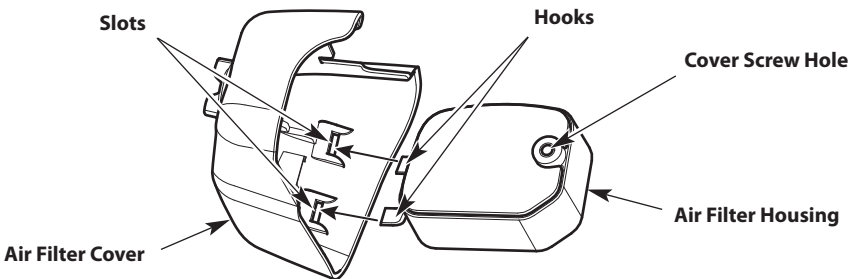

Fig. 21
7. Insert the hooks on the air filter housing into the slots on the air filter cover (Fig. 21).
8. Swing the air filter cover to the right and align the cover screw with the cover screw hole (Fig. 21). Tighten the cover screw to secure the air filter cover.